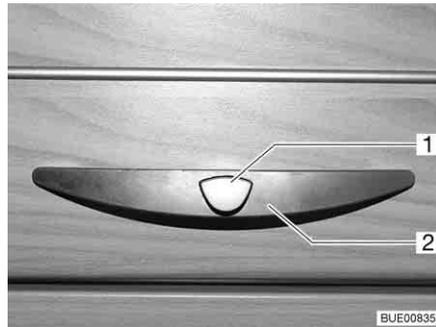
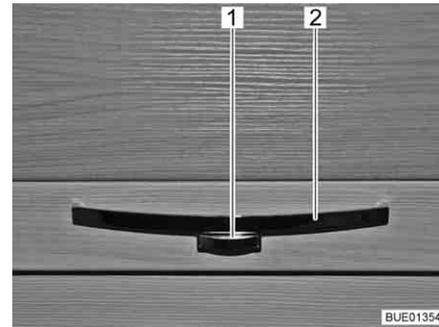

Fig. 53 Furniture flap with handle (example)
Fig. 54 Furniture flap with handle (example)
- Press the release knob (Fig. 53,1 or Fig. 54,1) on the handle (Fig. 53,2 or Fig. 54,2) and hold it down.